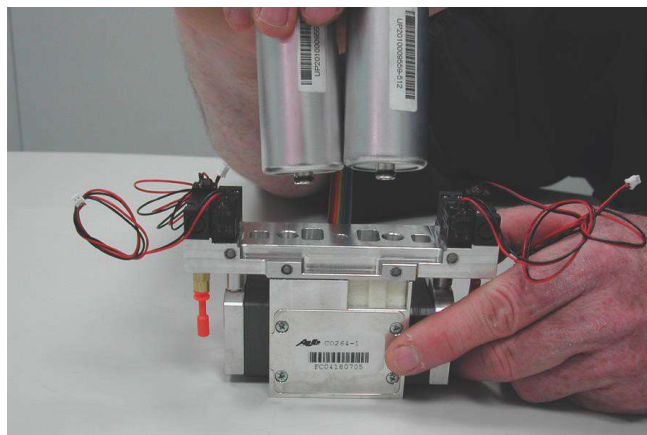

Figure 5.26
4. Holding both sieve beds, gently pull upward, removing the product manifold and sieve beds. Set product manifold and sieve bed assembly aside, keeping top of sieve bed connected to product the product manifold. (Figure 5.26)